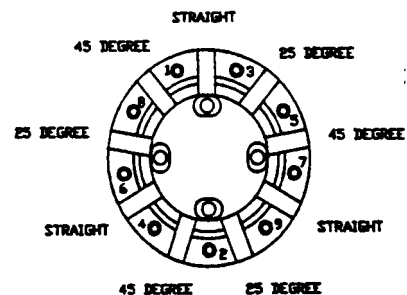

fig. 13
1. Teeth should be installed according to the pattern shown in Figure 13 above.
11. Before reinstalling the teeth, wire brush the inside of the cutter body and the cap screws. Spray with light oil or WD40 and reassemble. Remember to reassemble teeth in the same order: 45 degree offset, 25 degree offset, and straight; repeated three times (Figure 13, pg. 13). Make sure to align the notch in the teeth with the slot in the cutter head body so the cover plate can be assembled properly.